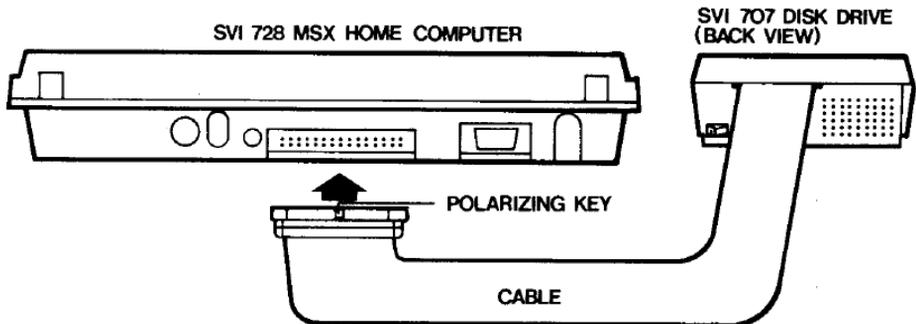

Figure 1 Connecting the Disk Drive to the Computer
| Figure 1 | |
- Step 2.** Position the disk drive cable so that the polarizing key on the connector is on top (see figure 1). Connect the cable to the Expansion Module Interface socket at the back of the computer.